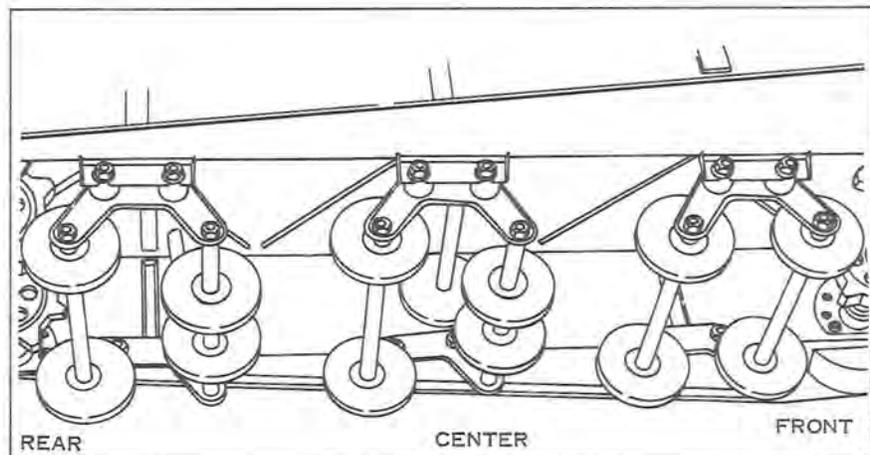

Figure 9-31
- a. Note that truck assemblies are similar, but not identical (see Figure 9-31). Front truck assembly has widely spaced hubs and tires on both axles. Center truck has three axles.